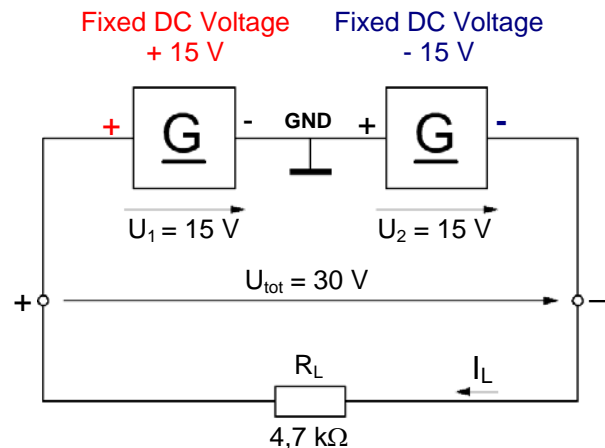

Fig. 6.2.2.1: Series circuit of 2 voltage sources
One of the poles of the DC voltage sources on the Electronic Circuits Board connected together. This forms the reference point known as Ground, 'GND' (or 'earth'). In Fig. 6.2.2.1 the reference point GND, is shown between the DC voltage generators by its standard circuit symbol.
The negative pole of **Source 1 (red)** and the plus pole of **Source 2 (blue)** are connected to GND. This then gives a series circuit of both voltages when a load is connected across the 'free' poles (Fig. 6.2.2). individual voltages ( $U_1$ ,  $U_2$ ) add to produce the total voltage  $U_{tot} = 30\ V$  which causes the load current  $I_L$  to flow in the consumer ( $R_L = 4,7\ k\Omega$ ).
- Connect the two Fixed DC Voltage together as shown in Fig. 6.2.2. Connect a load resistor of  $R_L = 4,7\ k\Omega$  at the output ( $U_{tot} = 30\ V$ ) The correct assembly layout is shown in section 6.2.3.
- Which current direction – technical or physical – is indicated for the load current,  $I_L$  in Fig. 6.2.2.1 and why?